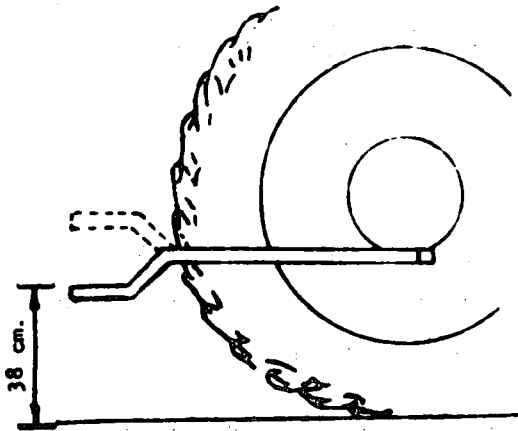

Fig. 3
- to allow different coupling heights; bent and reversible bar (Figs. 3 and 4).